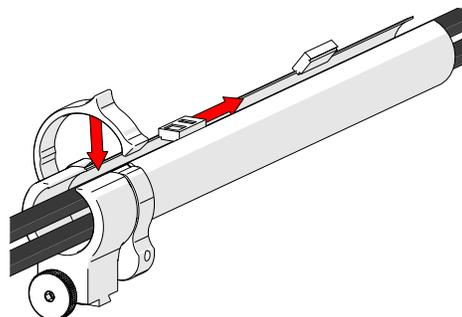

Fig. 71 - Zip up to close
2. Follow the cable placement, zipping the tube closed and closing the cable management's cable latch (Fig. 71).